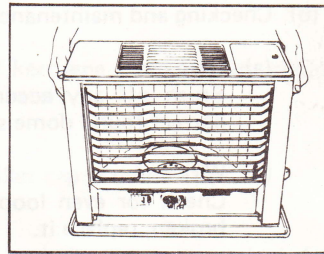

Fig. 19
- (5) Slant the body forward and lift upward to clear the wick control shaft through the hole in the panel. (Fig. 19)